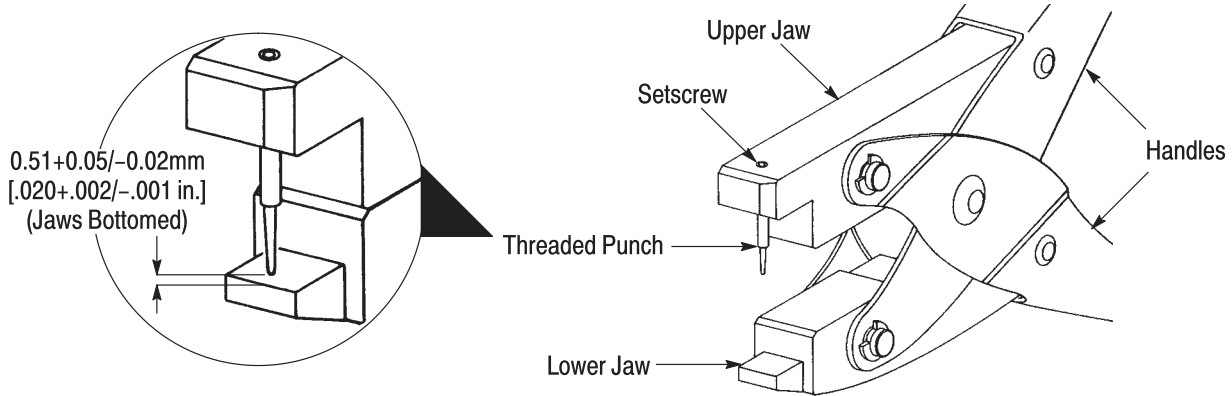

Figure 1
2. DESCRIPTION (Figure 1)
NOTE Close the tool handles and measure the distance between the punch tip and lower jaw. If necessary, adjust the threaded punch and setscrew to obtain the clearance shown in Figure 1. To adjust the punch, loosen the setscrew, adjust threaded punch up or down as required, and tighten setscrew.